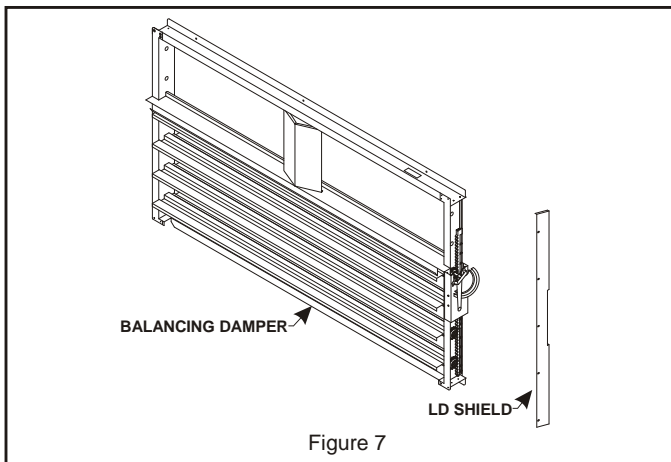
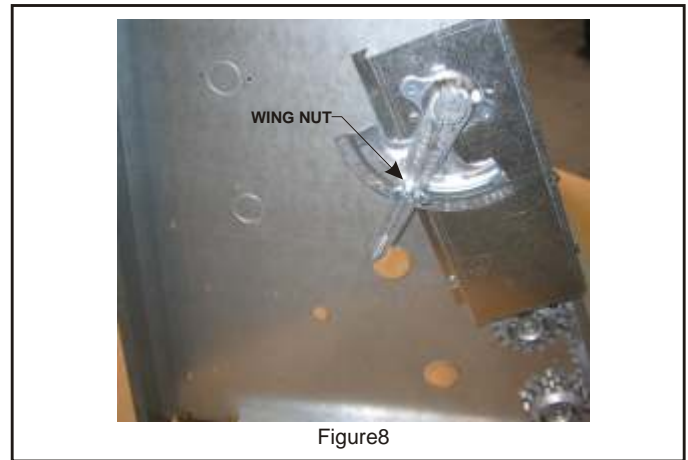

Figure 7
Figure8
5. Slide in balancing damper over return duct opening. Put balancing damper in place with the damper blade at the bottom. **See Figure 7.** Loosen wing nut on adjustable quadrant, rotate arm to set blades to 50% open and retighten wing nut. **See Figure 8.**